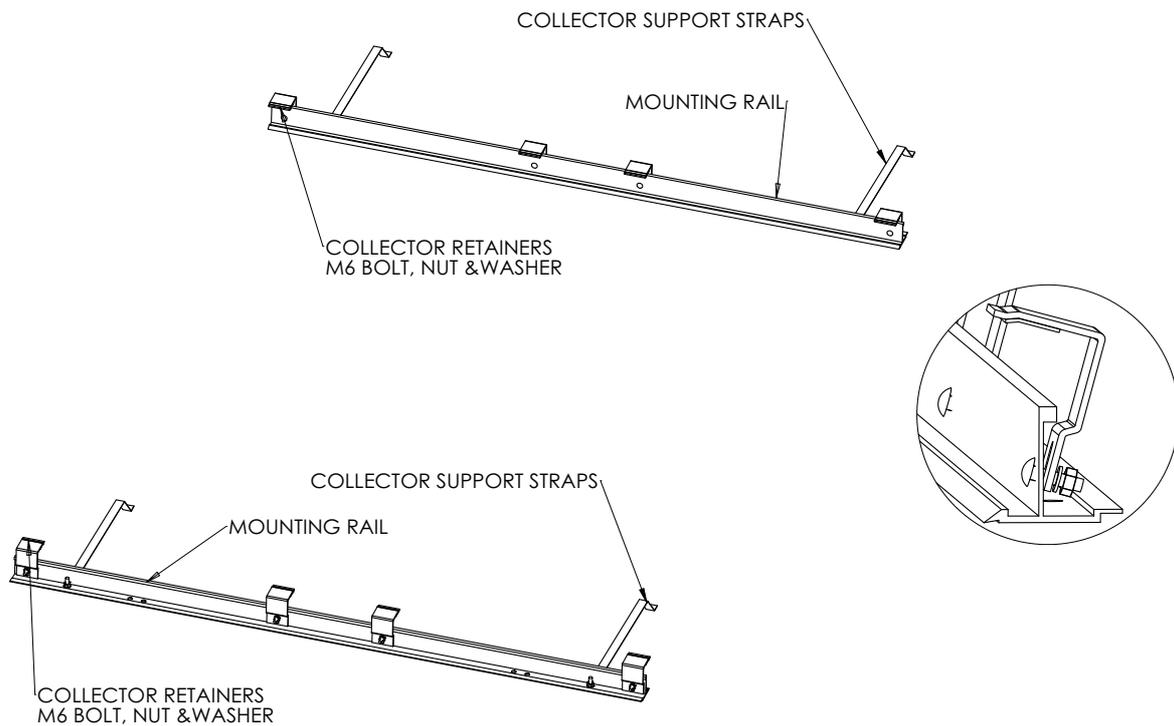

Figure 10 - Cylinder Mounting
- Assemble the cylinder cradle components and the lower collector rail components as shown in **Figure 10**.